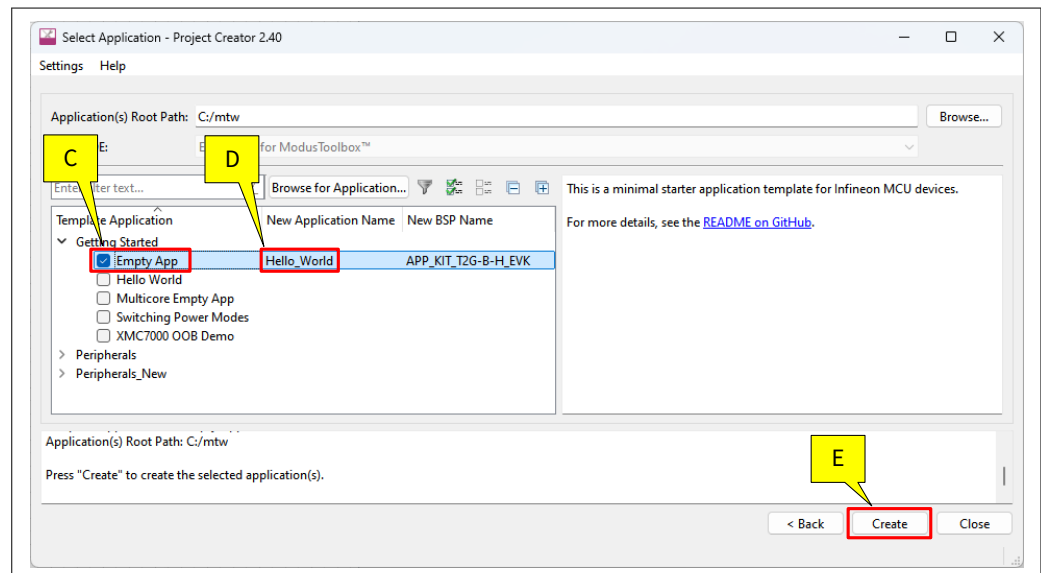

Figure 11 Choose the starter application
- In the **Starter Application** dialog, select **Getting Started > Empty App** starter application, as Figure 11 shows
- e. Click **Create** to create the application, as shown in Figure 11. Wait for the Project Creator to automatically close once the project is successfully created